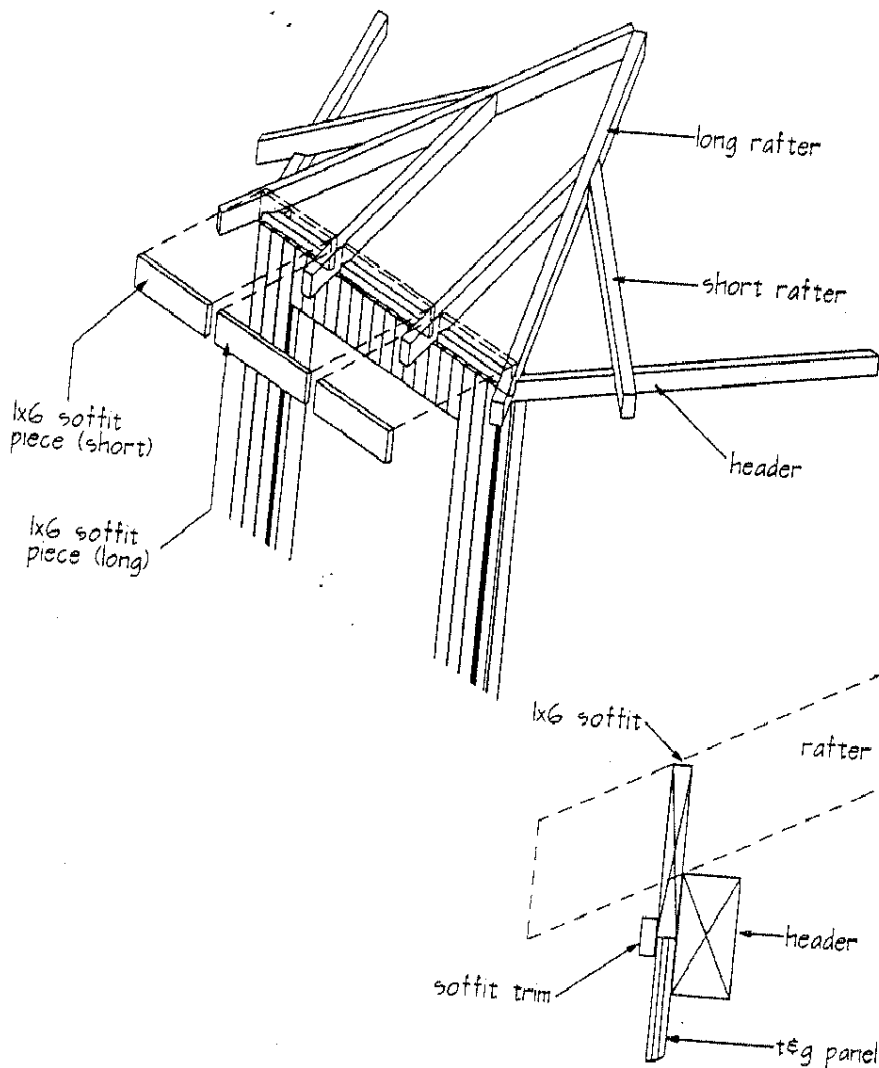

Figure E1
1. The 1 x 6 Soffit material comes in 18 pieces. There are 12 short pieces and 6 long pieces. The short pieces are used to fill in the gap between the CEILING and the Header from the Long Rafters to the Short Rafters. While the long piece is used to fill in the gap between each Short Rafter. These will fit right above the T&G Sidewall pieces and should be affixed with six 2" finishing nails. You will notice a small exposed hole under each Short Rafter. These small holes will be hidden by the 1 x 2" Soffit Trim which will be affixed later in Step 3. See **Figure E1** for details.
3. Mount the 1 x 2" Soffit Trim next. It will be attached under the Rafters and over the top of the seam formed by the T&G over the WINDOW DOOR pieces and the 1 x 6" Soffit material by using five 2" finishing nails per Rim Board. See **Figure E1** for details.